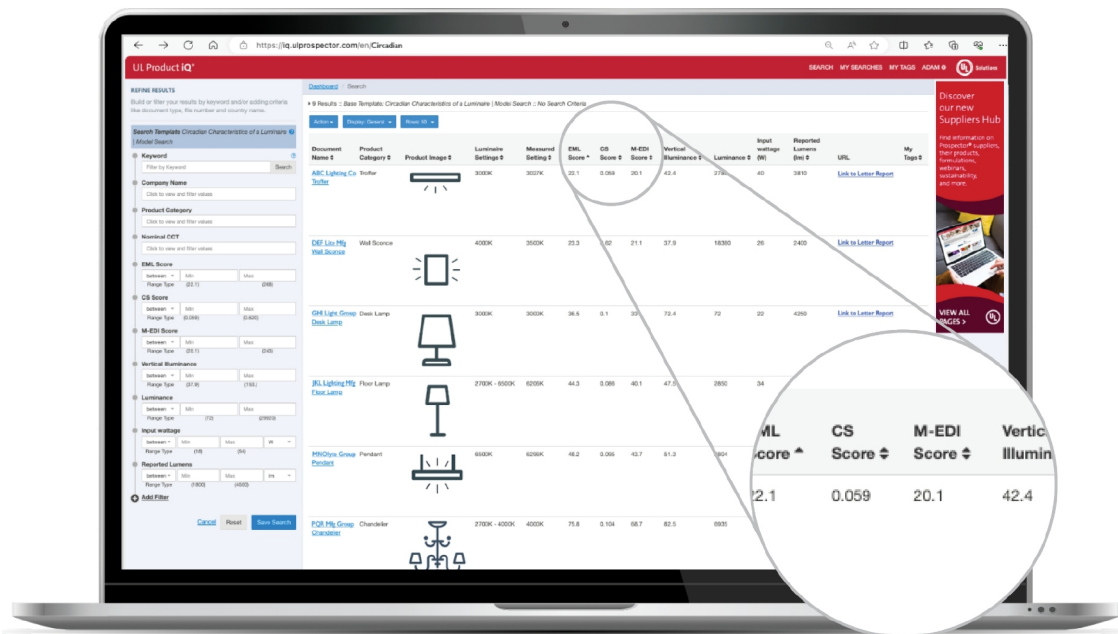

Figure 1: Circadian Product IQ®, UL Solutions’ online search directory for products, including luminaires tested by UL Solutions for their circadian score.
Fortunately, we have the answer and are developing a customized search template within UL Product iQ®. This online database currently serves as the point of reference for millions of users who need UL Certification information (see **Figure 1**).
**Adam LILIEN:** We've delivered circadian scores for numerous luminaires, and manufacturers can now start using the circadian search function on Product iQ. See **Figure 1**. We were also surprised, as one of the first customers was not a luminaire manufacturer but a manufacturer of a reflective surface in a building. Their products have different reflective scores, and they wanted to verify that the brighter surface increased the circadian score of the space. We are also discussing expanding the service to include other reflective surfaces such as paints, flooring, ceilings, and furniture.
ports of the IPCC (Intergovernmental Panel on Climate Change) and their broad authorship show [5]. **Figure 1** shows the evolution of the global mean surface temperature over the past 24,000 years. Large differences are visible; but the last 10,000 years have been in a very stable condition with variances of just  $\pm 0.5^\circ\text{C}$  [6]. This epoch in earth's history is called **Holocene**. Agriculture and advanced civilizations developed during this epoch, and it is considered the reference point of a desirable planet [3].
Figure 1: Global Mean Surface Temperature (GMST) change over the last 24,000 years, reconstructed from proxies (blue areas) and temperature measurements (line) [5].